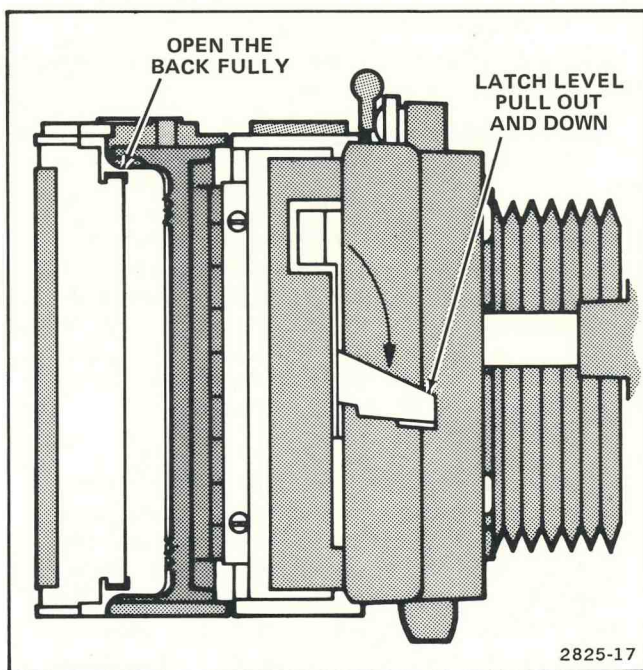

Figure 2-7. Opening the roll-film back.
2. Open the camera by swinging the latch lever out and down from the top of the camera back as shown in Figure 2-7.